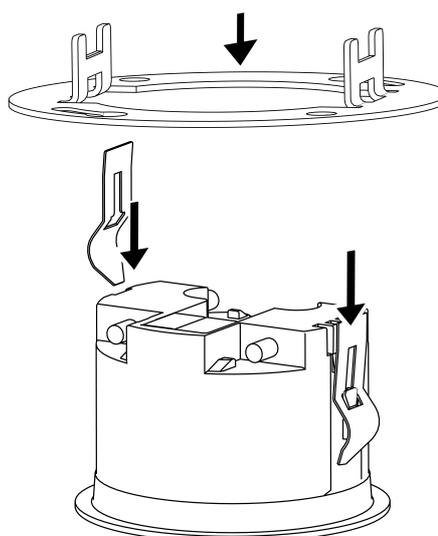

Figure 5
- Remove spring clamp (3).
- Push clamping springs (12) in the right orientation on the guides (2) from behind until they snap into place (Figure 5).